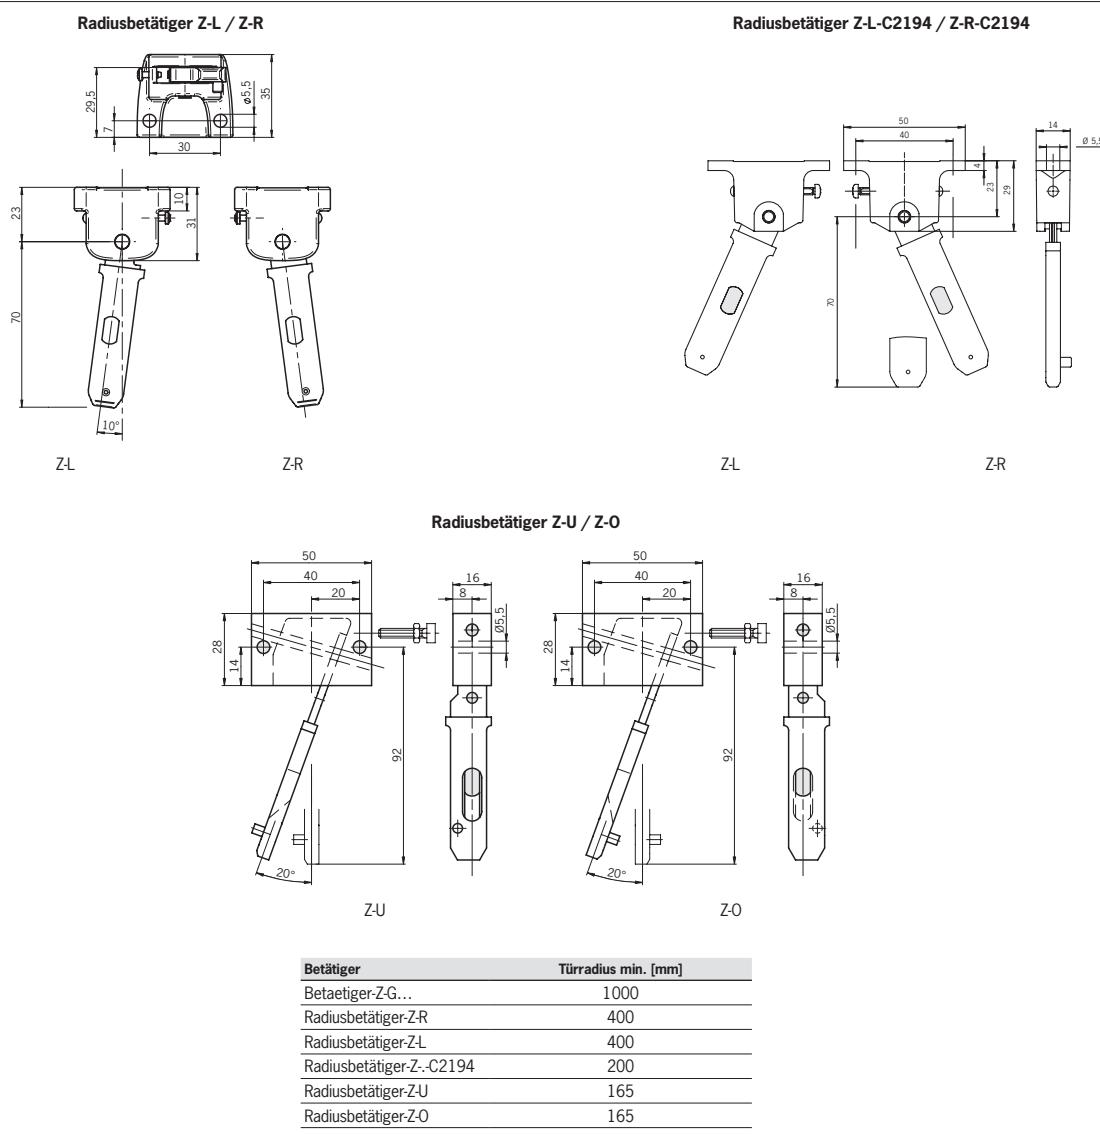

Bild 10: Minimale Türradien
- ▶ Additionally pay attention to the door radius and the mounting options (see Fig. 10).